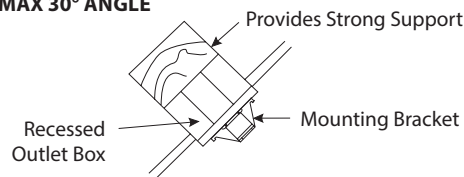

FIG. 3
**NOTE:** The sloped ceiling kit (sold separately) is required for sloped ceiling applications, and will accommodate slopes up to 45° (FIG. 3).
**NOTE:** You may need a longer downrod to maintain proper blade clearance when installing on a steep, sloped ceiling (FIG. 3).